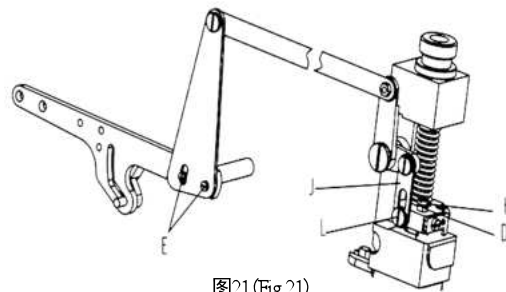

图21 (Fig.21)
2. 间隙0.5mm的调整: 如图(图21)所示, 调整螺钉(H), 使上下滚轮的间隙为0.5mm再锁紧螺帽(D) (图21)稍放松螺钉(K)并调整连杆(J), 使螺钉(L)与连杆(J)的长圆孔下方的间隙为0.5mm, 再锁紧螺钉(K)。
#### 2. Gap referring (Fig.21):
Loosen nut (D) and turn screw (H) to reach 0.5mm gap between top and lower rollers. Then tighten screw nut (D). (Fig.21) release screws (K) slightly and adjust connector (J) to keep the space between the bottom edge of screw (L) and the edge of slot on connector (J) at 0.5mm. Then tighten screw (K).